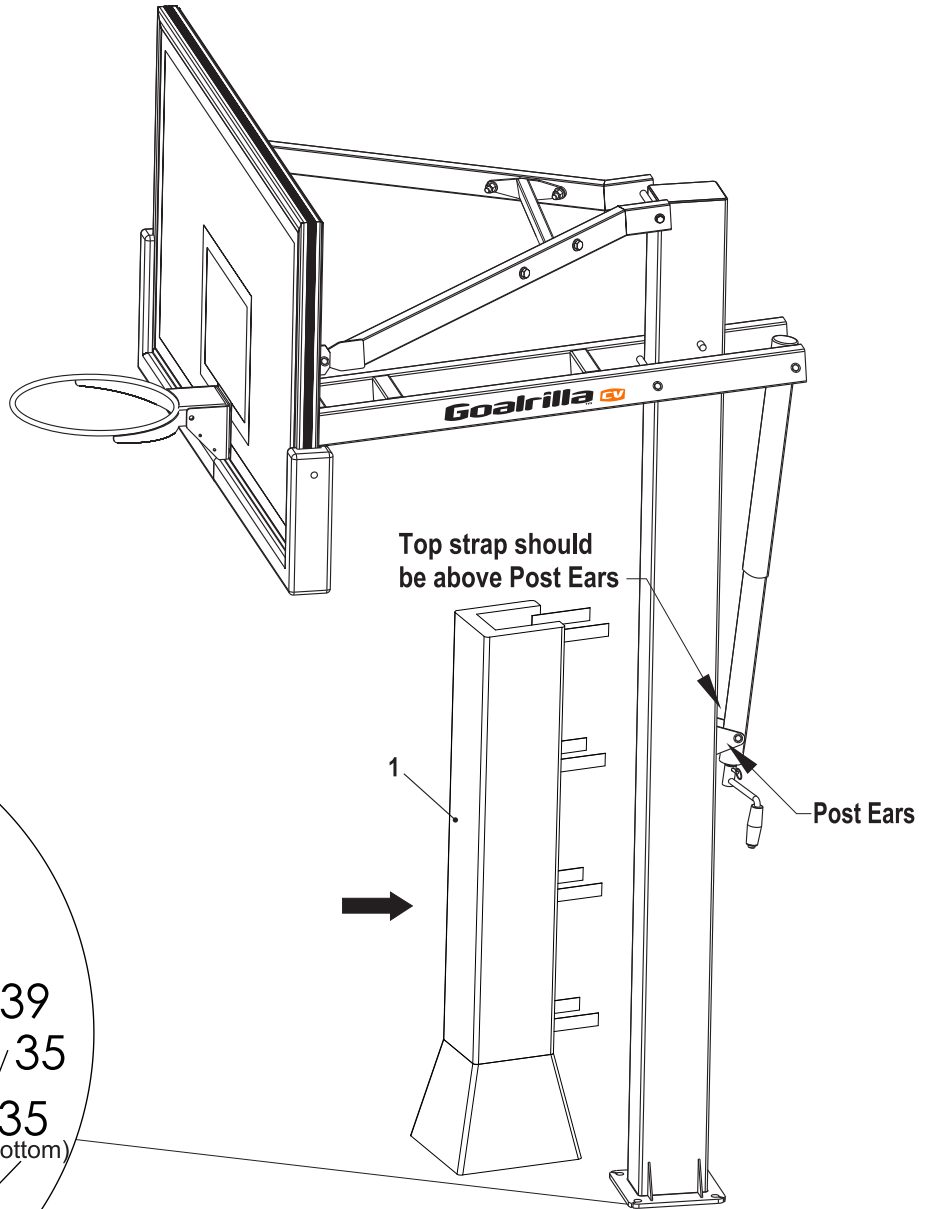

Figure 15
28. Secure Post Pad (#1) to front of pole by wrapping straps around the back pole and sticking to velcro on opposite side of Pad. Top Post Pad straps should be above Post Ears. See Figure 15.